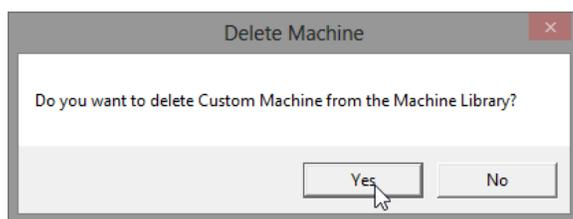

Figure 173
5. Click **Yes** on the **Delete Machine** dialog box (Figure 173).